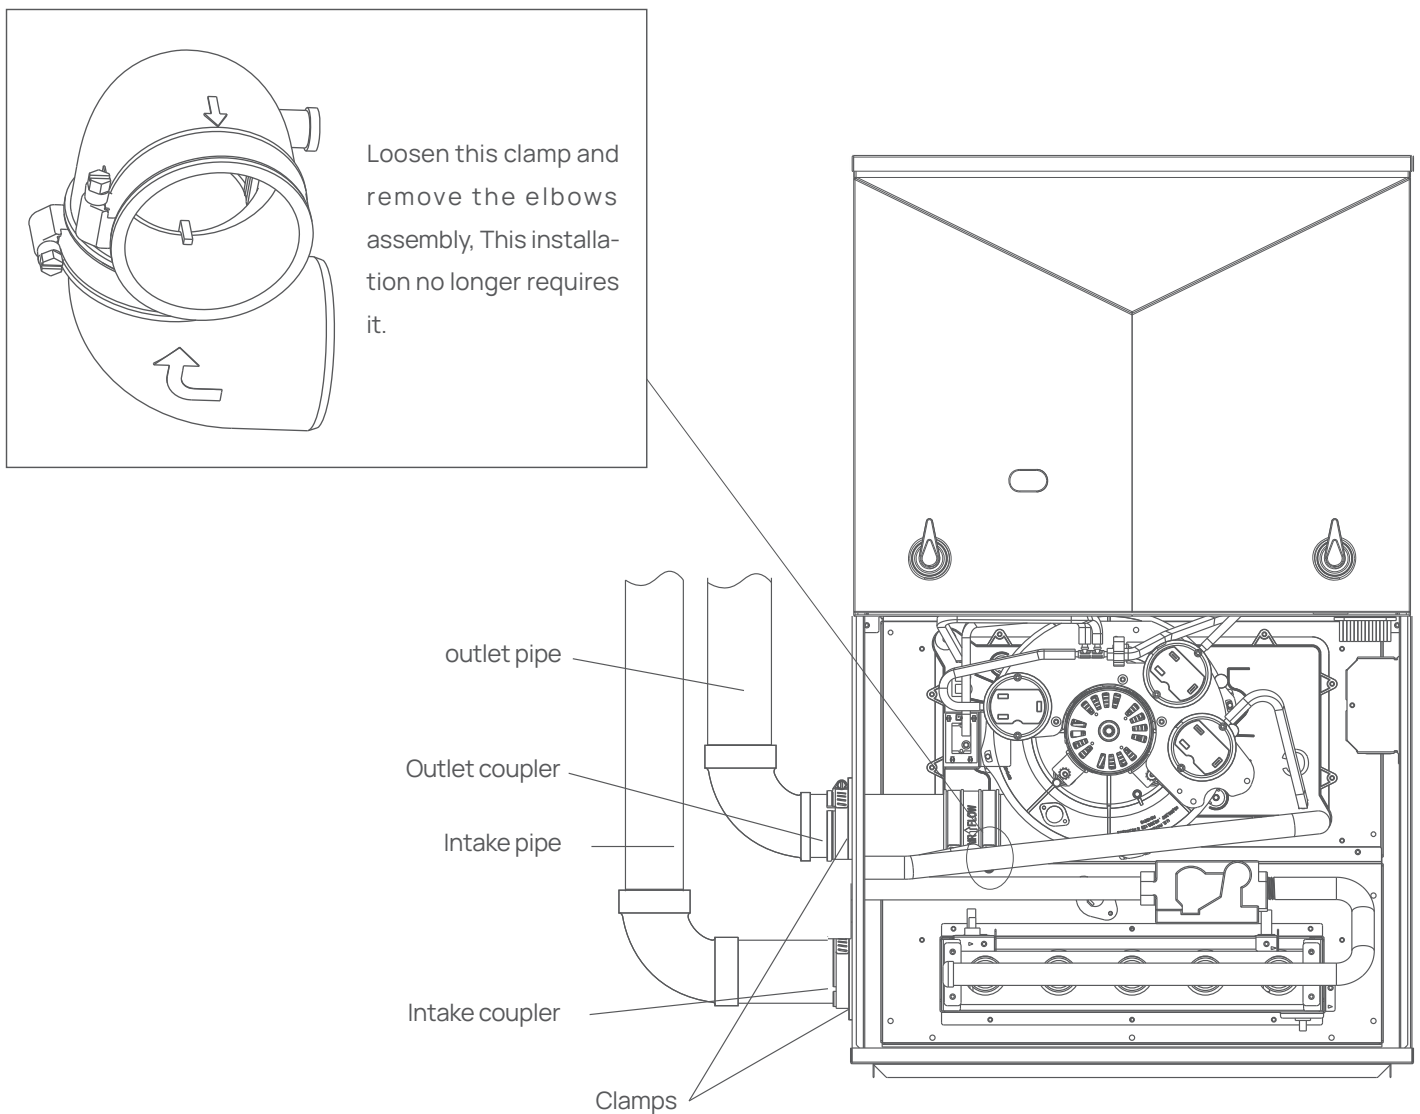

Fig. 34 Downflow Installation, Left Side Venting
7.9 For Downflow Installations (see Fig. 34)
- ① Knock open the intake and outlet holes on the side panel;
- ② Install the intake and outlet couplers into the knock-out holes for intake and outlet on the side panel, and secure them with three self-tapping screws provided in the accessories.
- ③ Loosen the clamp of the cigarette pipe elbow, and remove elbows ② and ① together;
- ④ Insert a 2" vent tube through the outlet coupler into the flexible coupler on the inducer air outlet, and tighten the clamp of the coupler and the flexible connector;
- ⑤ Insert the intake pipe into the intake coupler and tighten the clamp on the coupler ;
- ⑥ Use street 2 to 3" transition for 3" pipe if necessary.